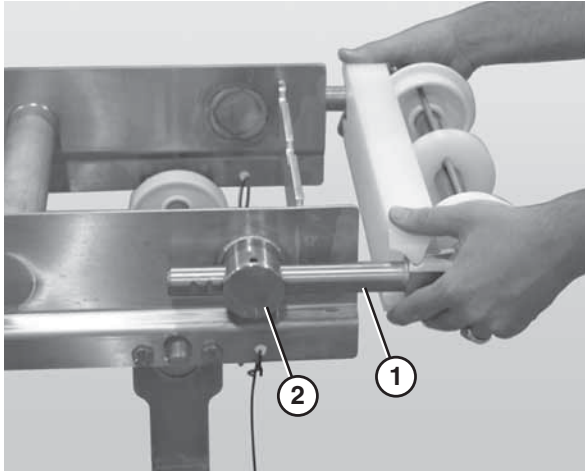

Figure 16
1. Slide the bearing shafts (Figure 16, item 1) into the take up blocks (Figure 16, item 2).